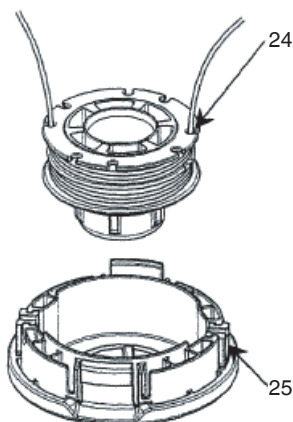

Fig. 29
- (5) Insert both loose ends of the line through the cord guide (25) when placing the reel in the case. (Fig. 29)